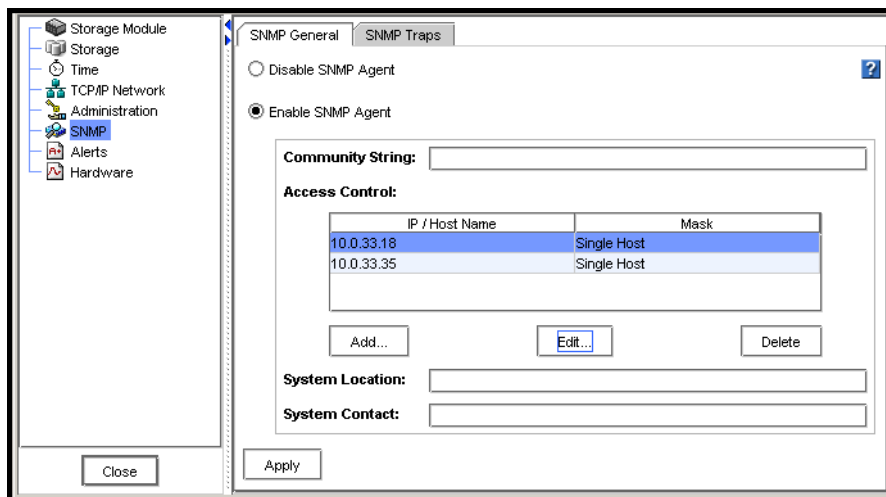

Figure 94. Editing a Host in the Access Control List
1. Select a host listed in the Access Control list, shown in Figure 94.